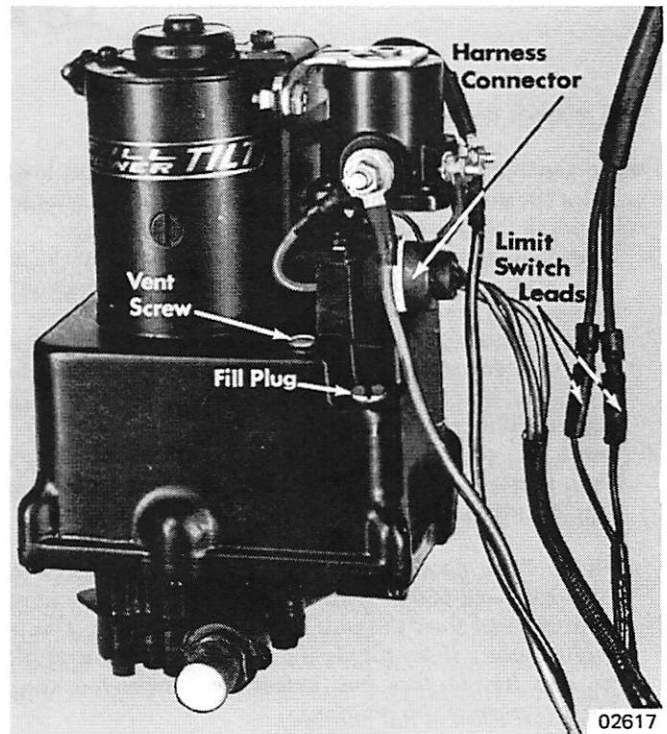

Figure 11. Electric Connections on Pump
1. Place clamp over end of harness connector and one plug connector onto receptacle of hydraulic pump. (Figure 11)
3. Plug limit switch leads (from lift cylinder bracket) into 2 female receptacles on control panel harness. (Figure 11)
7. With unit tilted up, check oil level by removing fill plug. (Figure 11) If necessary, fill to bottom of threads with Formula 4 SAE 20W Quicksilver Oil (C-92-33157-1).